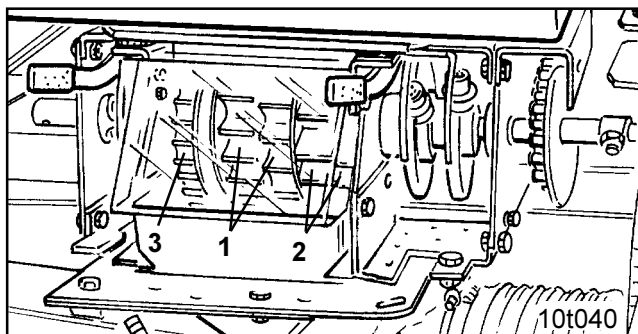

Fig. 10.1
- a white coloured main seed wheel (Fig. 10.1/1)
- an orange coloured main seed wheel (Fig. 10.1/2)